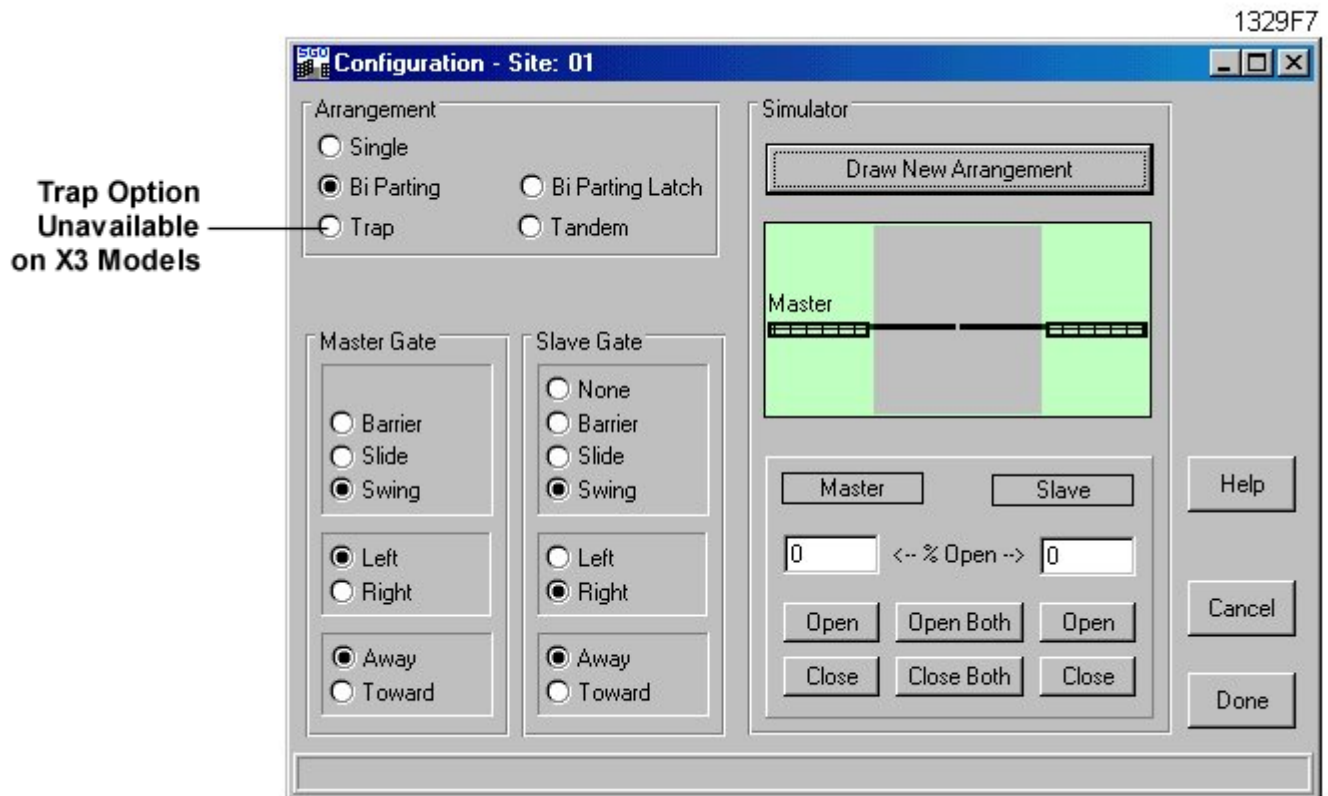

Figure 7: Configuration Screen (X1/X3)
1. Click on "Configuration" in the Edit menu to display the Configuration screen (Figure 7).